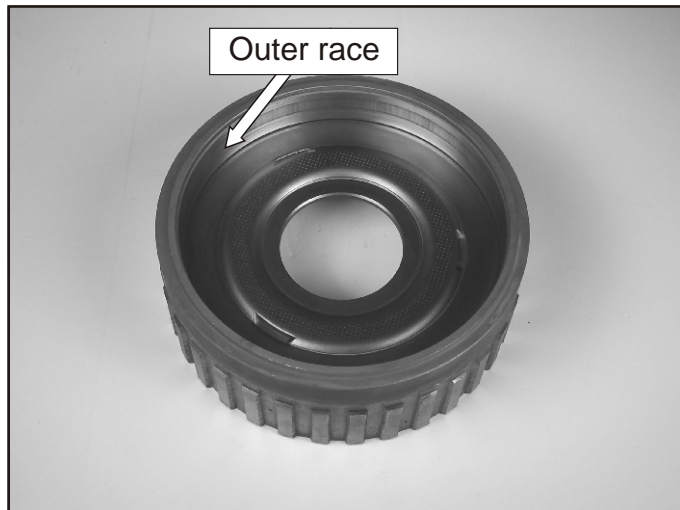

Figure 181
- 125. Inspect the outer race for wear or scoring, in the area where the sprag rides and replace as necessary. See Figure 181.